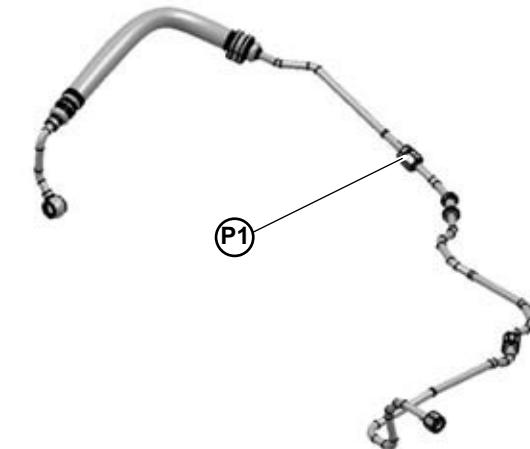

Fig.31
10. Remove both parts of the P1 delivery pipe (Fig.31).